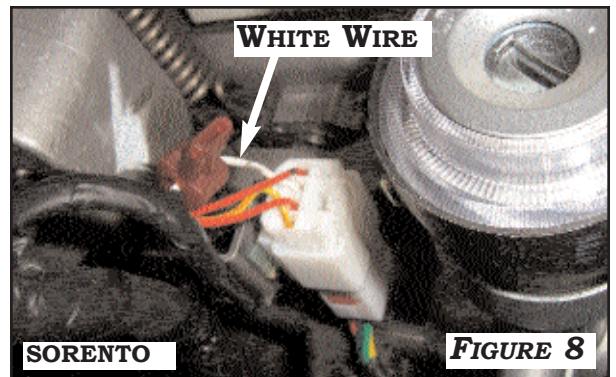

FIGURE 8
- CONNECT **RED ACCESSORY WIRE** AND **WHITE WIRE MARKED CRUISE 1** FROM THE MAIN CRUISE HARNESS TO **WHITE WIRE (SORENTO)** OR **GREEN WIRE (RONDO)** IN THE IGNITION SWITCH CONNECTOR. **FIGURE 8 OR 8A**.